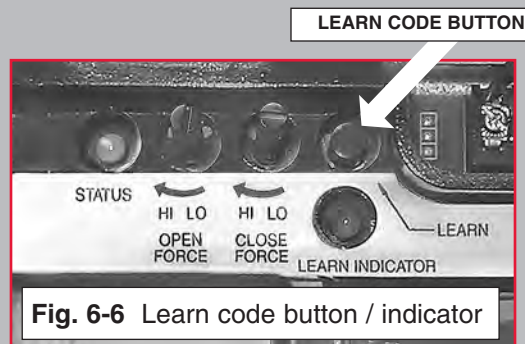

Fig. 6-6 Learn code button / indicator
3. Programming door operator (Fig. 6-6).
- Open keypad cover fully—LED blinks one time (Fig. 6-6).